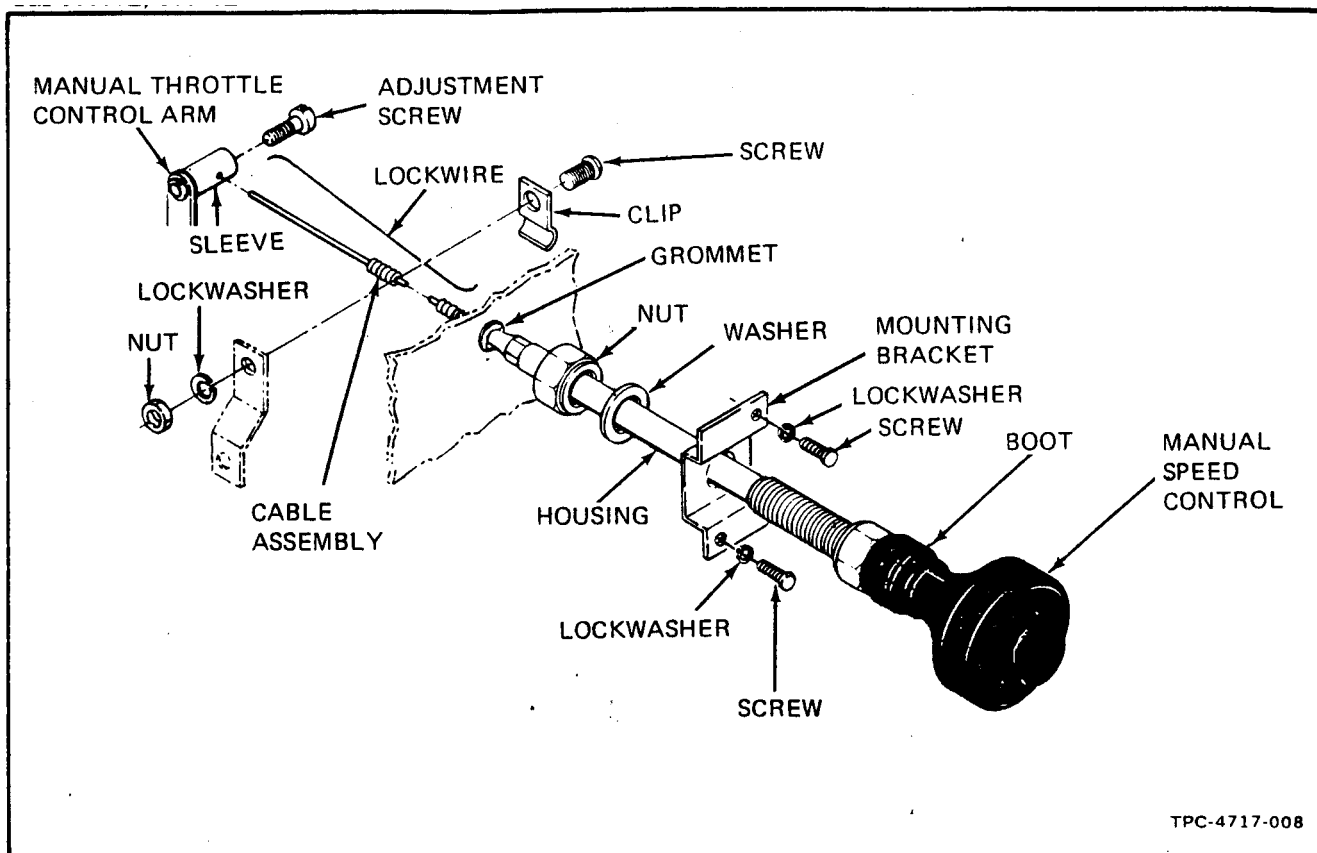

Figure 3-40. Manual Speed Control, Exploded View
(1) Inspect manual speed control knob (figure 3-40) for cracks, breaks, and other damage and condition of boot.
(2) Inspect control cable assembly for corrosion, pinched, frayed, or otherwise damaged cable, pinched or damaged housing, insecure mounting, and stripped or otherwise damaged adjusting threads.
(b) Insert manual speed control cable through sleeve of fuel injection pump manual throttle control arm (figure 3-40).
(a) Loosen adjustment screw (figure 3-40) and remove cable from sleeve.